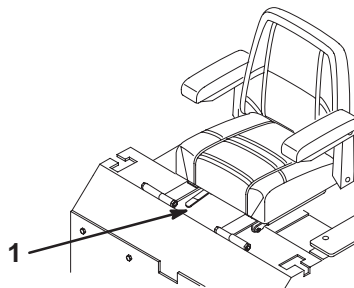

Figure 22
1. To adjust, move the lever sideways to unlock the seat (Fig. 22).